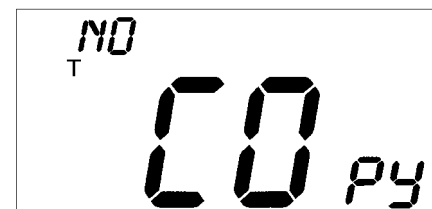

Fig. 7 — Copy Command Display
11. The Copy command can be used to copy the previous day's schedule if the schedules are the same. The copy command becomes available after all the occupied periods are programmed in a day. Use the UP ARROW to change the copy command to YES. Use the DOWN ARROW to change the copy command to NO. Press the Mode button when the choice has been made. See Fig. 7.